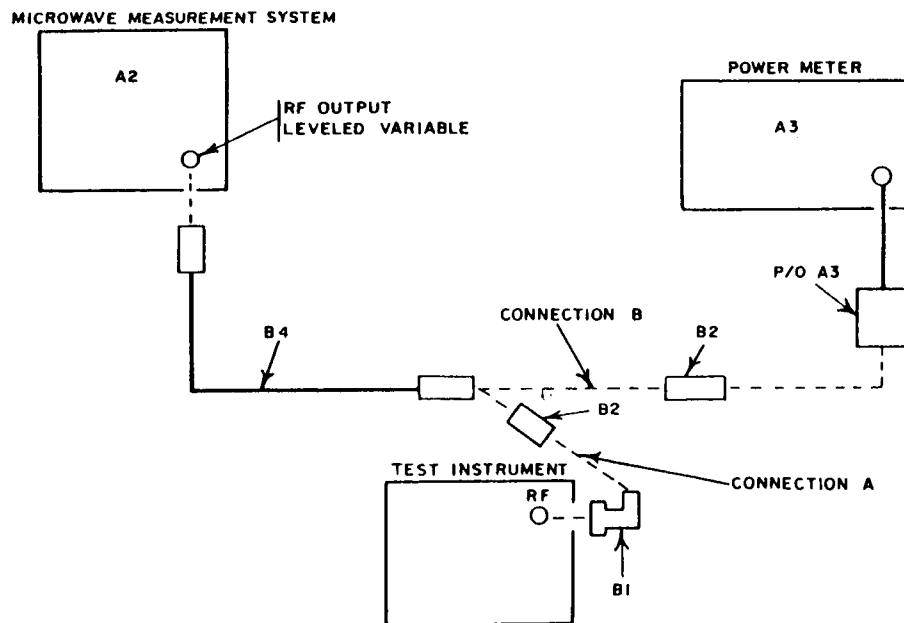

Figure 2. Input - equipment setup.
- (1) Set **TRAN/TEST/RECV** switch to **TRAN** and adjust **SET ZERO COARSE** and **FINE** controls to obtain **SET ZERO** indication on **SET POWER** meter.
- (2) Connect equipment as shown in figure 2, connection A.
- (3) Adjust controls of microwave measurement system (A2) for CW operation at 8.5 GHz (15.8 GHz) and power level for an on-scale Indication on **SET POWER** meter.
- (4) Set **DBM** control to +7 dBm and adjust microwave measurement system power output until **SET POWER** meter indicates **SET POWER**.
- (5) Connect equipment as shown in figure 2, connection B. Power meter (A3) indication will be between +5.5 and +8.5 dBm.
- (6) Repeat technique (1) through (5) for highest possible level allowed by microwave measurement system or cardinal point on dBm dial (whichever is possible).
- (7) Repeat technique of (1) through (6) above at frequencies of 9.05 and 9.60 GHz (16.35 and 16.9 GHz).